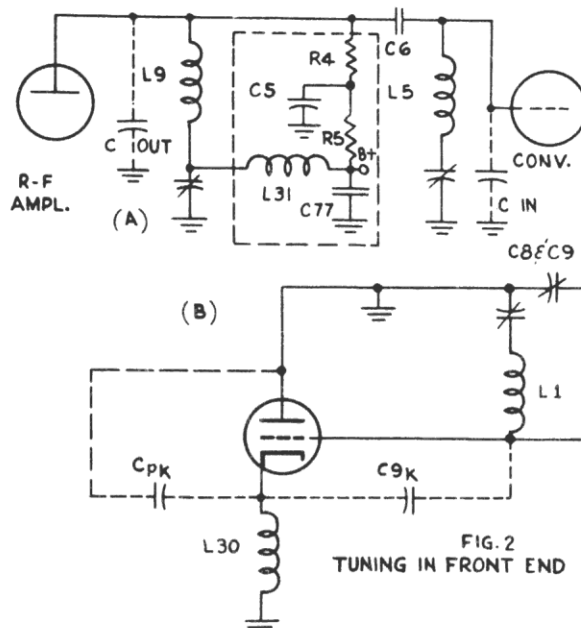

FIG. 2
The tuned circuits employed in the front end of this receiver are illustrated in Figs. 2 (A) and (B). Fig. 2 (A) shows the tuning of the plate of the r-f amplifier and the grid of the converter; since they are so closely connected together in actuality, they are shown together here. In drawing this, R108 and R6 (the converter grid return) and some inductors, capacitors, and resistors have been omitted for the sake of simplicity. R108 is simply used as a coil form for L9 and, because of its high resistance, has negligible electrical effect. The other omitted resistors, which are mechanically part of the pushbutton assembly, are used similarly as coil forms. However, their resistances are relatively low, and so they also serve the electrical purpose of loading their associated coils. This is necessary because these coils are used only for the low-frequency channels, and it is important that they have broad band-pass characteristics. If the components enclosed in the dashed lines are temporarily ignored, it will be observed that the circuits on either side of C6 are the same. C_{out} is the output capacitance of the r-f amplifier,
The oscillator, which is shown in Fig. 2 (B), is a modified Colpitts. The diagram has been drawn in such a way as to emphasize this, and the d-c grid and plate connections have been omitted for the sake of simplicity. C_{pk} is the plate-cathode capacitance and C_{gk} is the grid cathode capacitance. The unlabeled variable capacitor which is part of the tank represents C91 and the tuning capacitor chosen by the push-button switch assembly for the channel in use. As in the case of the r-f and converter tuning, inductors are added in series with the tuning capacitor on the low-frequency channels. These coils are also wound on resistors, but, because this is an oscillator and as such should not have broad-band characteristics, 1-megohm resistors are used in all cases. C8 is a fixed capacitor in series with C9, which is the fine tuning control. As is customary in television receivers, the oscillator is tuned to a frequency higher than the incoming signal.
(Capacitors C83 and C93 are not illustrated in Fig. 2 (A) in order to simplify this figure as much as possible.)